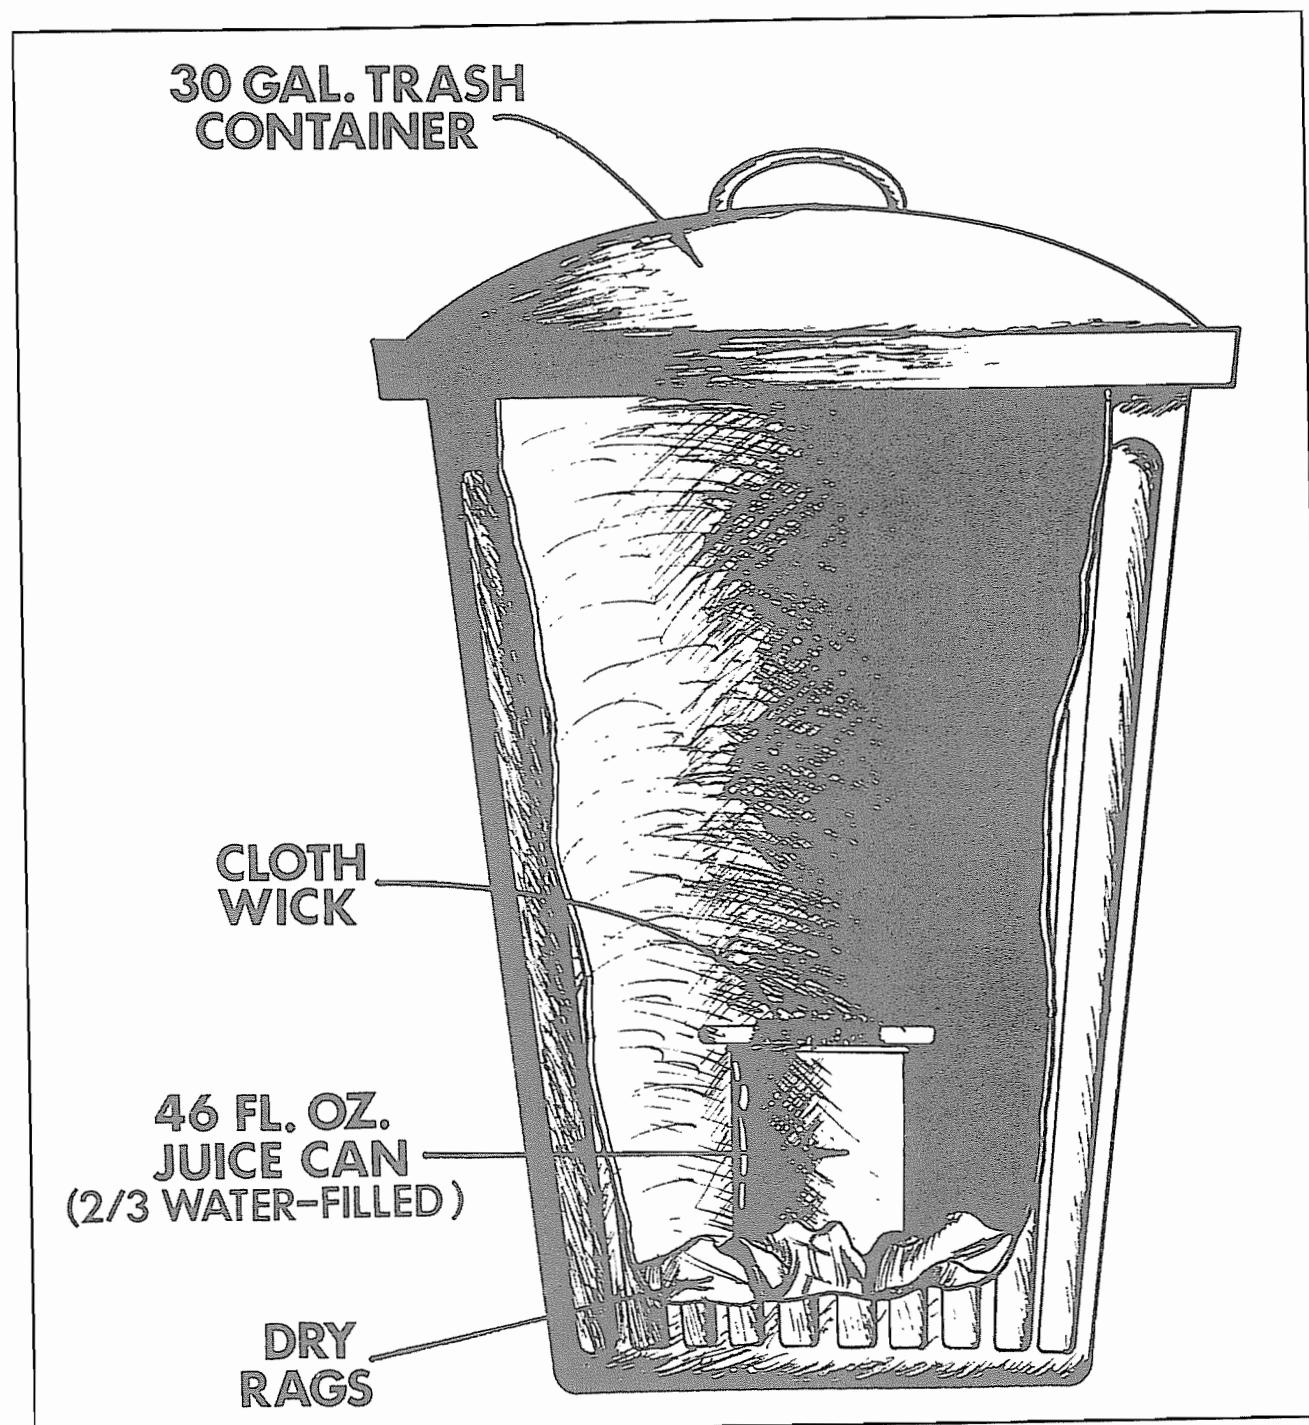

Figure 16-2. The original illustration of my device for dampening motor casings.
*Figure 16-2* is the original illustration from my original book. The tubes sat in this device for up to 4 days before they were ready, and it took a lot of practice to learn how to use it properly. The guesswork involved caused a lot of frustration, and a general dissatisfaction with the entire motor building system.